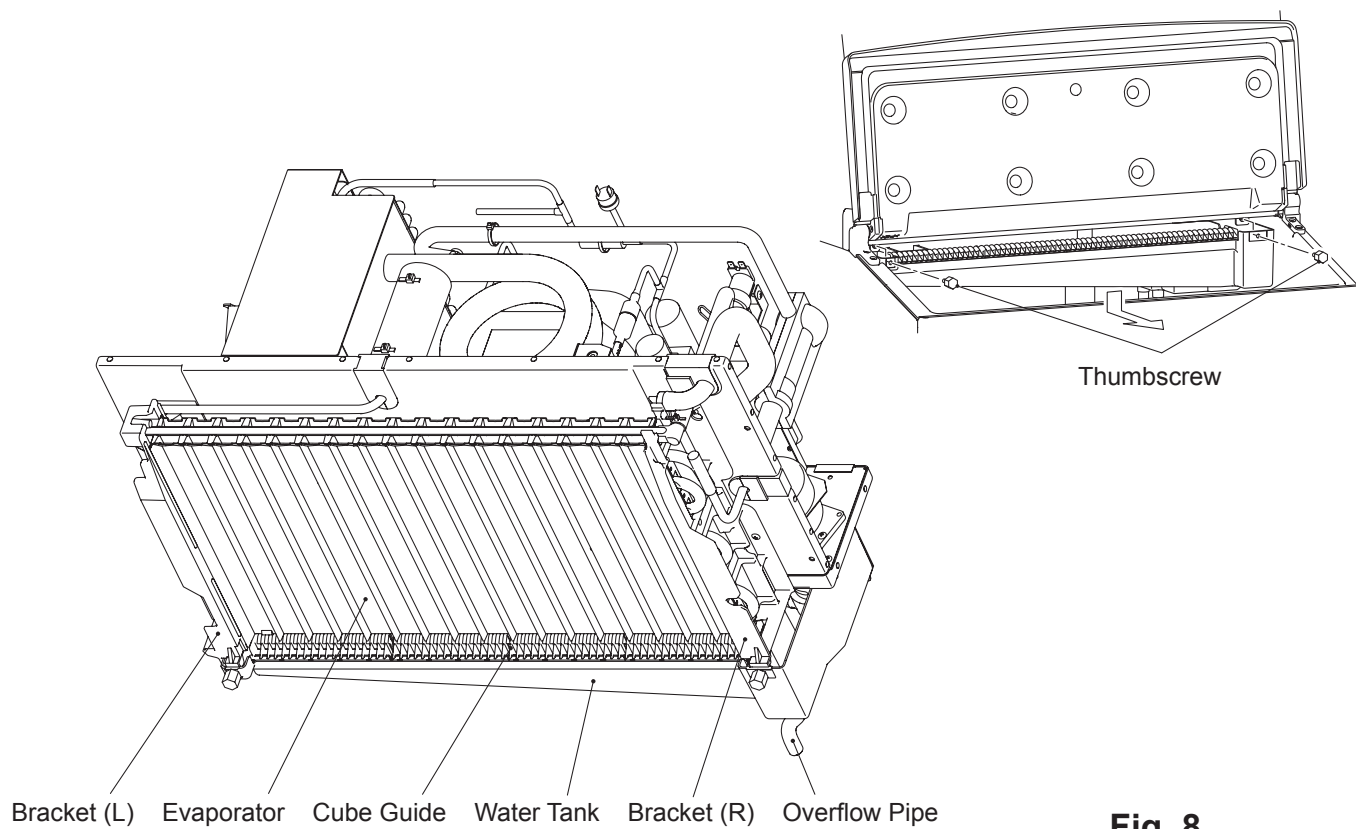

Fig. 8
14) Disconnect the overflow pipe. Next, remove the water tank by removing the two thumbscrews and pulling the tank towards you slightly and pushing it down. Be careful to avoid breakage when handling the parts. See Fig. 8.